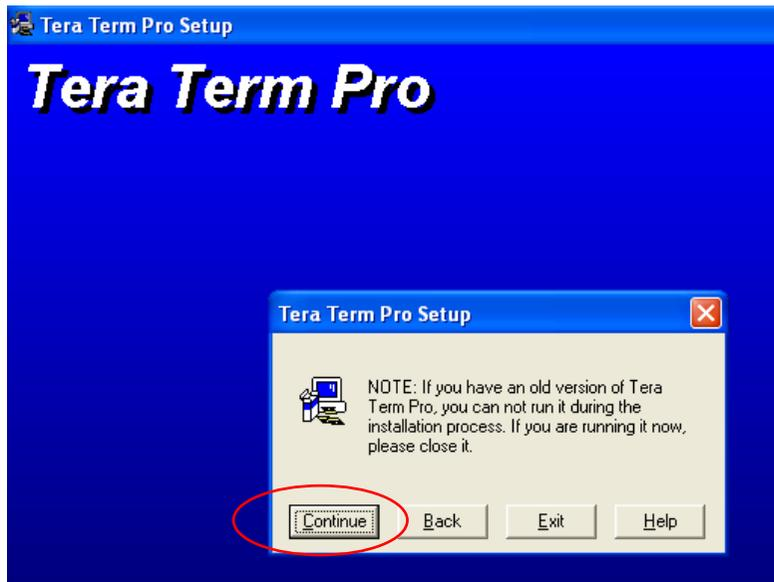

Figure 99:
3. Press 'Continue' when the next screen appears (Figure 99).